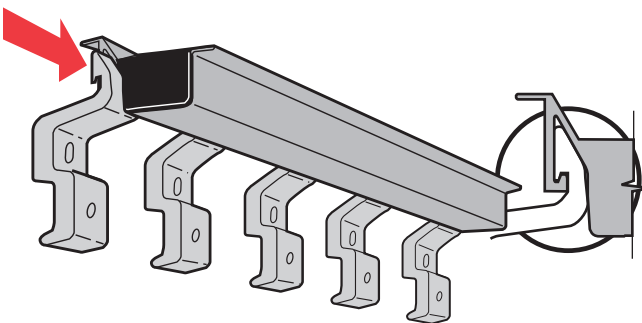

Figure 3
- a) Slide clamps into side rail grooves. Spread evenly along length of rails. Exact location will be determined when installing rails onto truck bed. (Fig. 3)